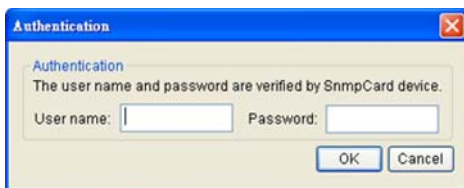

Figure 3. Authentication window.
8. You will need to input password for the SNMP card (Figure 3) in the authentication window, as shown in figure 3. *Default user name: cyber; Default password: cyber